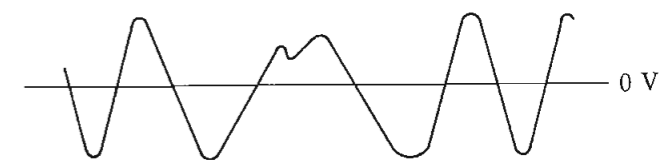

Fig. 54
3. Adjust the semi-fixed resistor R160 so that the waveform deflection at T.E is OV at the center. (See Fig. 54)